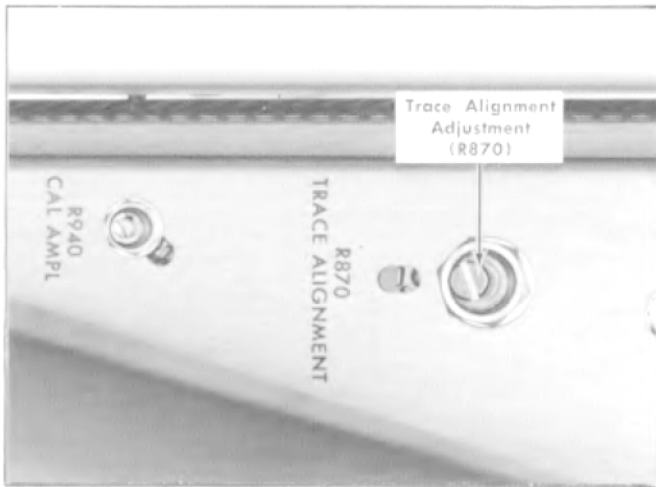

Fig. 6-24. Location of trace alignment adjustment (Calibrator and High Voltage chassis).
- c. Adjust—R870, Trace alignment adjustment (Fig. 6-24) so the trace is parallel to the center horizontal graticule line.
22. Adjust Astigmatism (R867) ①